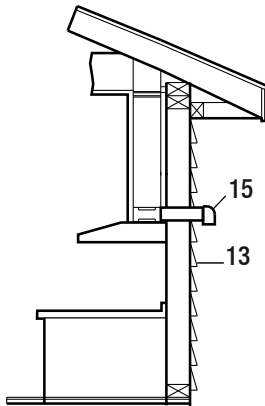
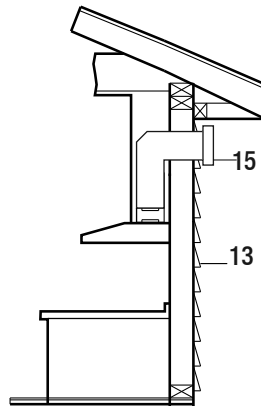
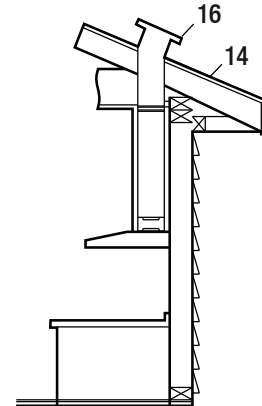

Fig.5
Fig.6
Fig.7
- Your venting system must vent to the outdoors either horizontally through the back wall (13) or vertically through the roof (14) (refer to Fig. 5/Fig. 6/Fig. 7).